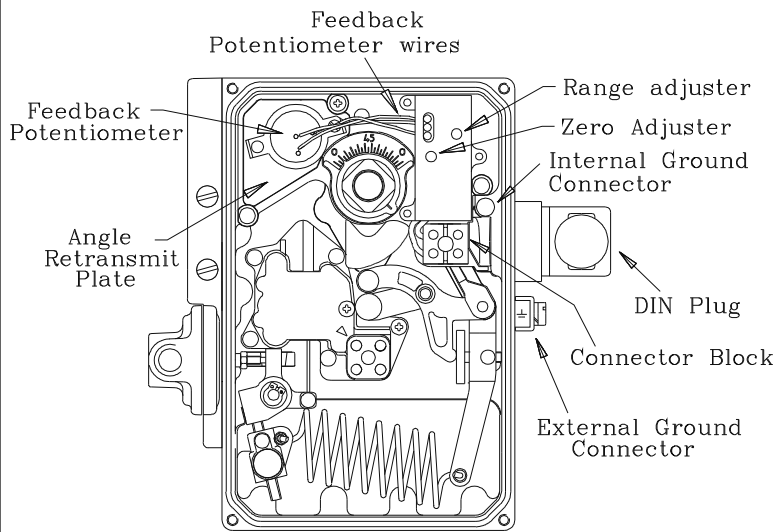

FIGURE 7. ANGLE RETRANSMIT.
4.4.2 Remove positioner cover and undo the three M4 screws retaining the red retransmit plate, as shown in Figure 7. Loosen the central coupling screw sufficiently to pull the coupling complete with the retransmit assembly off the actuator connection.
6.1.2 Remove positioner cover and unscrew the three M4 screws retaining the red retransmit plate, release the two wires on the terminal block connected to the DIN plug (if fitted), as shown in Figure 7, and carefully remove coupling and retransmit assembly as one unit.
6.2.2 Remove positioner cover and undo the three M4 screws retaining the red retransmit plate, release the two wires on the terminal block connected to the DIN plug (if fitted), as shown in figure 7. Loosen the central coupling screw sufficiently to carefully pull the coupling complete with the retransmit assembly off the actuator square.
### 6.3 Zero and Range Adjustment (refer to Figure 7).
6.4.2 Remove positioner cover and undo the three M4 screws retaining the red retransmit plate, release the two wires on the terminal block connected to the DIN plug (if fitted), as shown in figure 7. Loosen the central coupling screw sufficiently to pull the coupling complete with the retransmit assembly off the actuator connection.